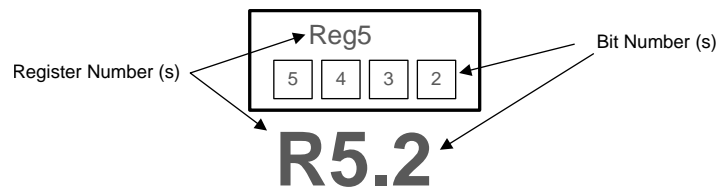

Figure 4. LMK61E0 Register Reference Format
Figure 4 shows the method that this document employs to refer to an individual register bit or a grouping of register bits. If a drawing or text references an individual bit the format is to specify the register number first and the bit number second. The LMK61E0 contains 38 registers that are 8 bits wide. The register addresses and the bit positions both begin with the number zero (0). The bit address is placed in brackets or after a period. The first bit in the register file is address R0[0] or R0.0 meaning that it is located in Register 0 and is bit position 0. The last bit in the register file is address R72[7] or R72.7 referring to the 8th bit of register address 72 (the 73rd register in the device). Figure 4 also lists specific bit positions as a number contained within a box. A box with the register address encloses the group of boxes that represent the bits relevant to the specific device circuitry in context.